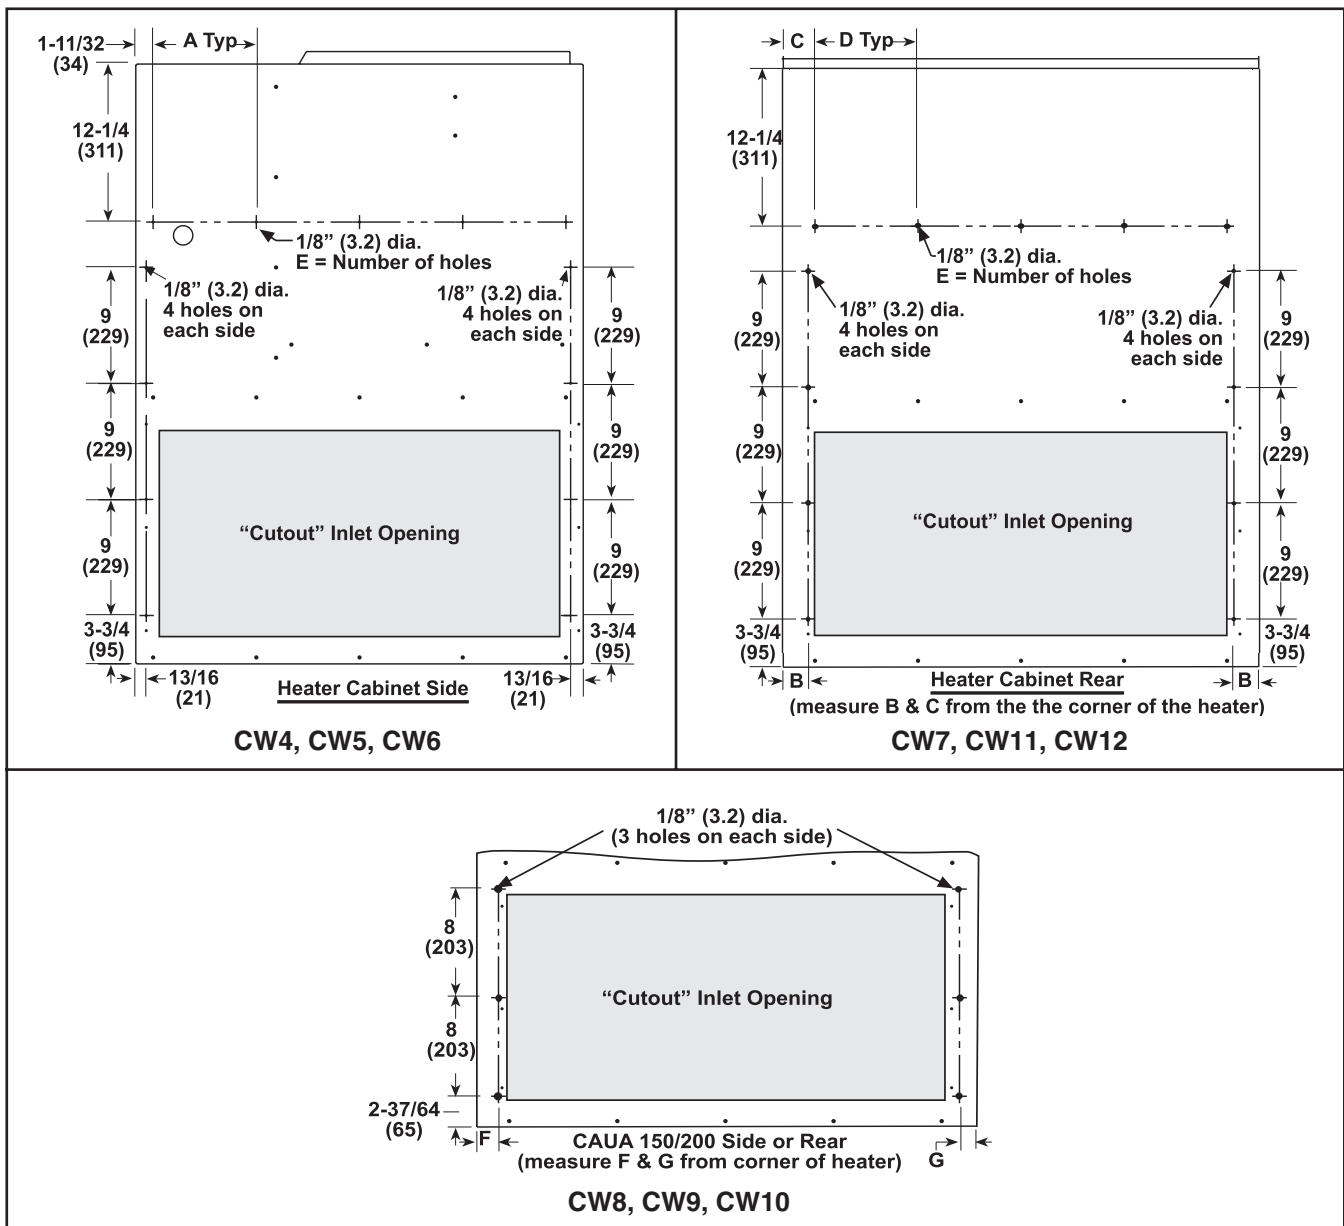

Figure 5. Mounting Holes and Dimensions (Refer to Table 9)
4. For option CW4, CW5, CW6, CW7, CW8, CW9, CW10, CW11, or CW12, mark and drill four 1/8-inch holes above inlet opening as shown in Figure 5.
*See Figure 5.